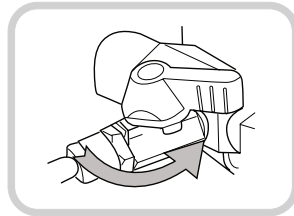

Fig. 1
1. Close the cold water tap (Fig. 1).